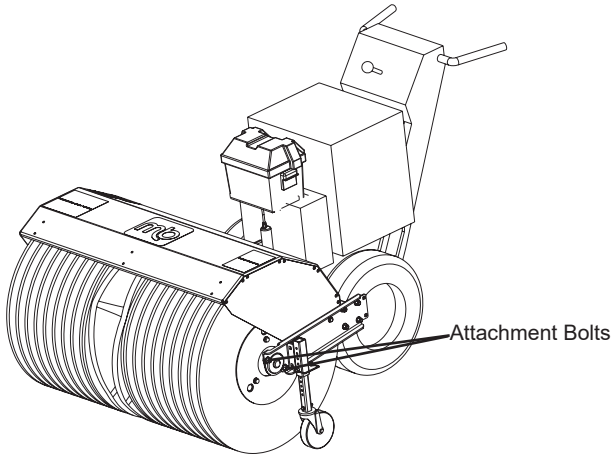

Figure 14 Brush Removal
1. Remove bolts from broom bearings at both ends of the support shaft (Figure 14 Brush Removal).